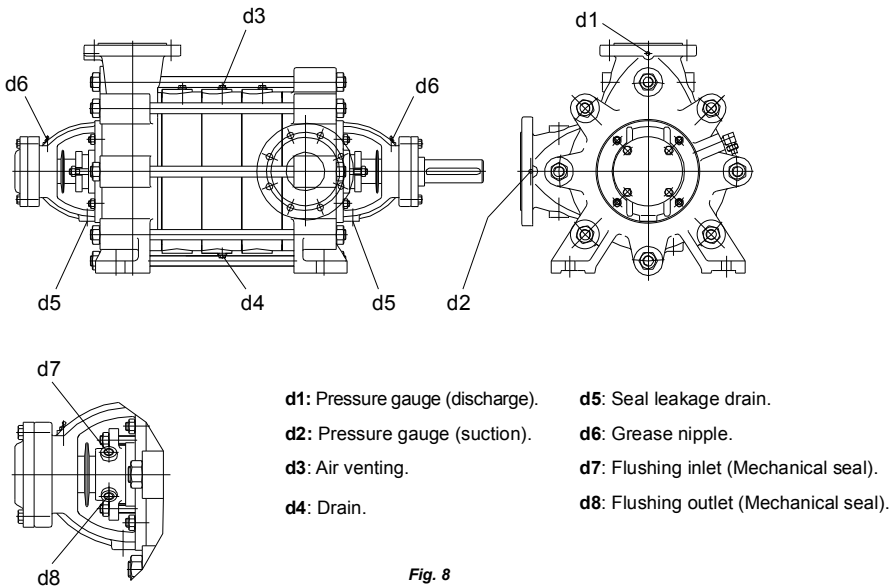

Fig. 8
• Every pump is fitted with connections on the pump casing to drain the pump and on the bearing bracket to evacuate the seal leakage from the stuffing box (Fig. 8). If required the pump drain and seal leakage can be piped to a suitable reservoir. The pump draining piping must be fitted with an isolating valve and both must be suitable for the maximum operating pressure of the pump.
• Cooling, sealing and flushing of seal piping must be connected only to the designated connections located on the pump (See Fig. 8 to 12).